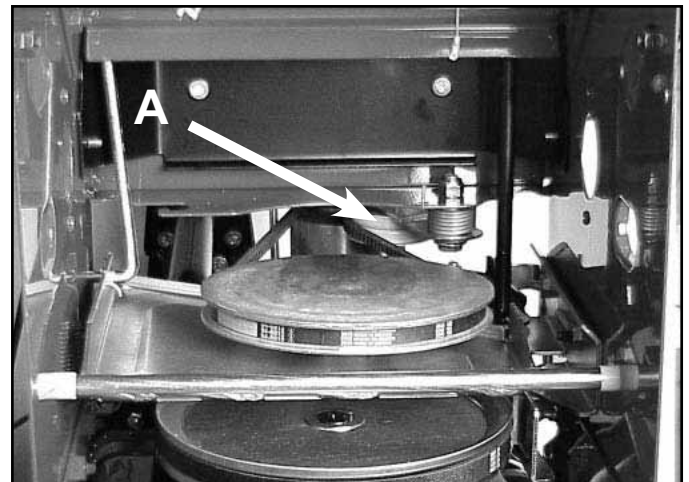

Fig 147
1. Install pivot plate assembly into the housing and install belt. The idler pulley should be pushed away from you to install the pivot plate (Fig. 147).